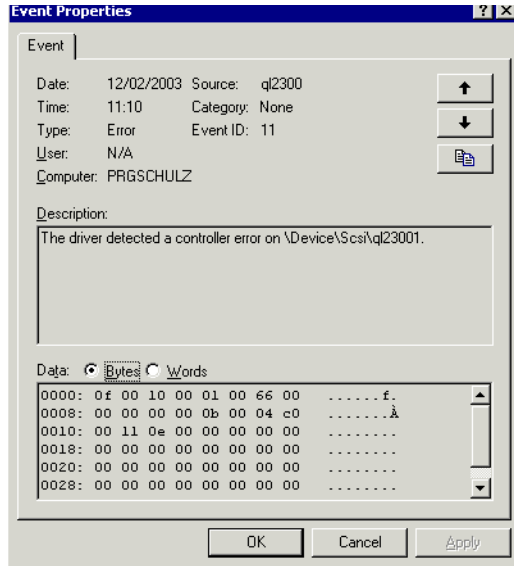

Figure 6-17 Qlogic Driver Entry in Windows 2000 Event Log
- ▶ The second example (Figure 6-17 on page 187) is a Qlogic 2300 driver entry. The relevant data for the user is the event ID number; however, there is no more additional information available and you need to consult other sources such as the MEL or the switch/hub event logs for further problem determination.